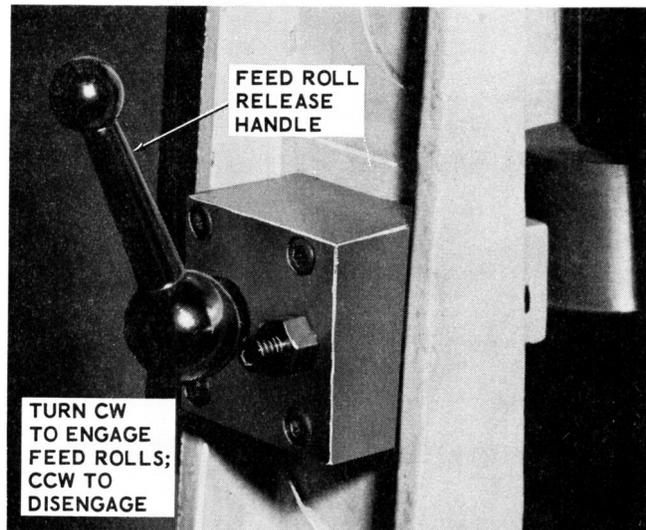

Figure 4-3. Feed Roll Release Handle
b. Turn feed roller release handle to engage feed rollers against web (Figure 4-3).
d. Disengage feed rolls by turning feed roller release handle (Figure 4-3).